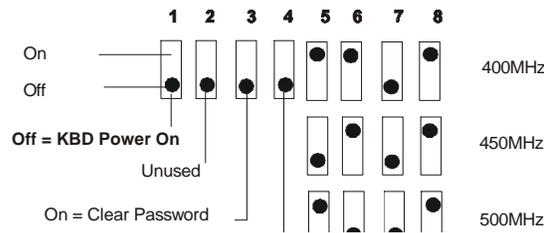

Figure 7-1. System Switch Settings
2. Check the processor clock switch settings and determine the clock speed of the processor module already on the system board (see Figure 7-1).